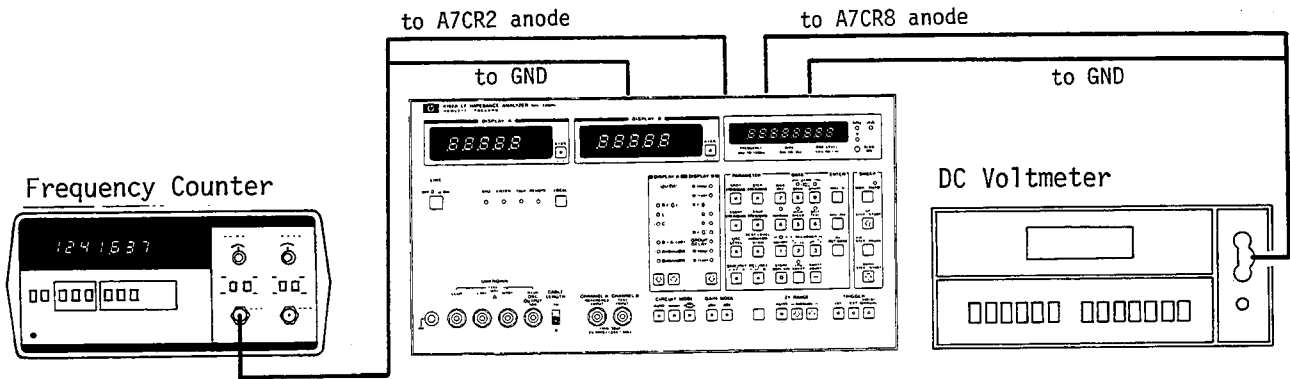

Figure 5-1. A7 Power Supply Adjustment Setup.
- (1) OSC Frequency Adjustment
- b. Connect the high lead to the anode of either A7CR2 or CR3 and connect the low lead to the chassis as shown in Figure 5-1.
- (2) Output Voltage Adjustment